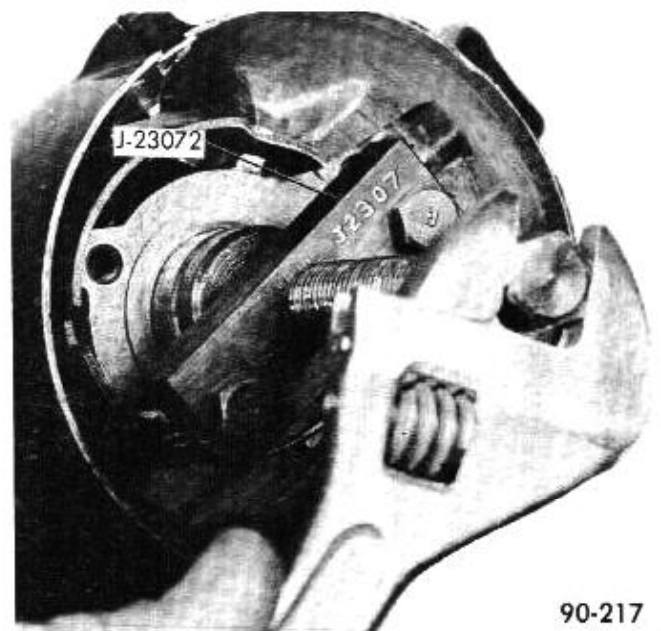

Figure 90-118 - Removing Shift Tube
25. Remove shift tube from bowl using Remover J-23072. Pilot adapter in upper end of shift tube and force tube out of bowl. Care should be taken not to jam lower shift lever into "T" slot on lower end of mast jacket while forcing out shift tube. See Figure 90-118.